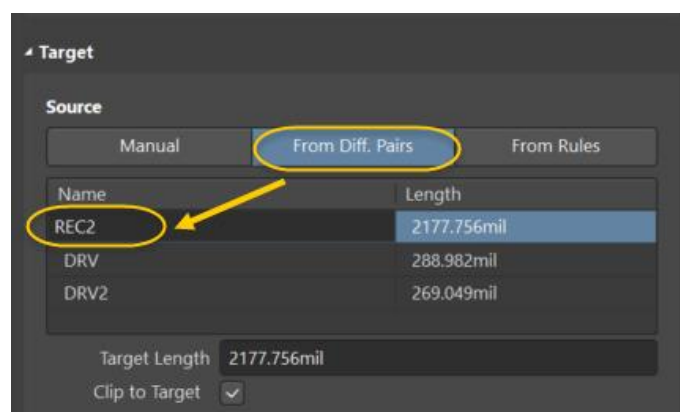

Figure 6. Target length for the differential pair length tuning
38. In the *Properties* panel, in the *Target* section, set the *Source* to **From Diff Pairs**, Figure 6.